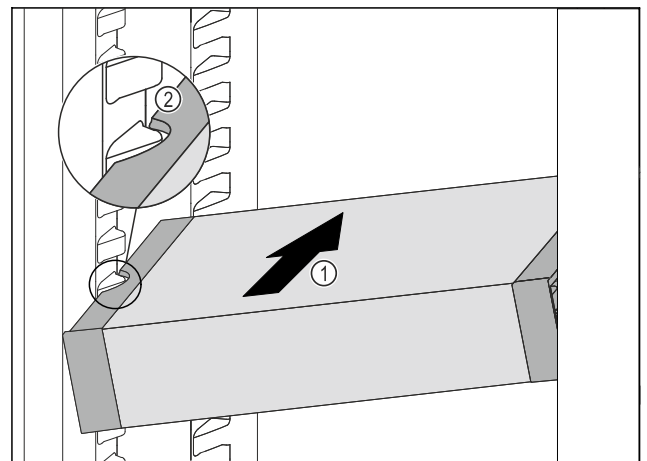

Fig. 90
- Insert the VarioSafe into the fridge section at an angle Fig. 90 (1) until the recesses in the side Fig. 90 (2) of the VarioSafe are at the level of the support rib in the fridge section.